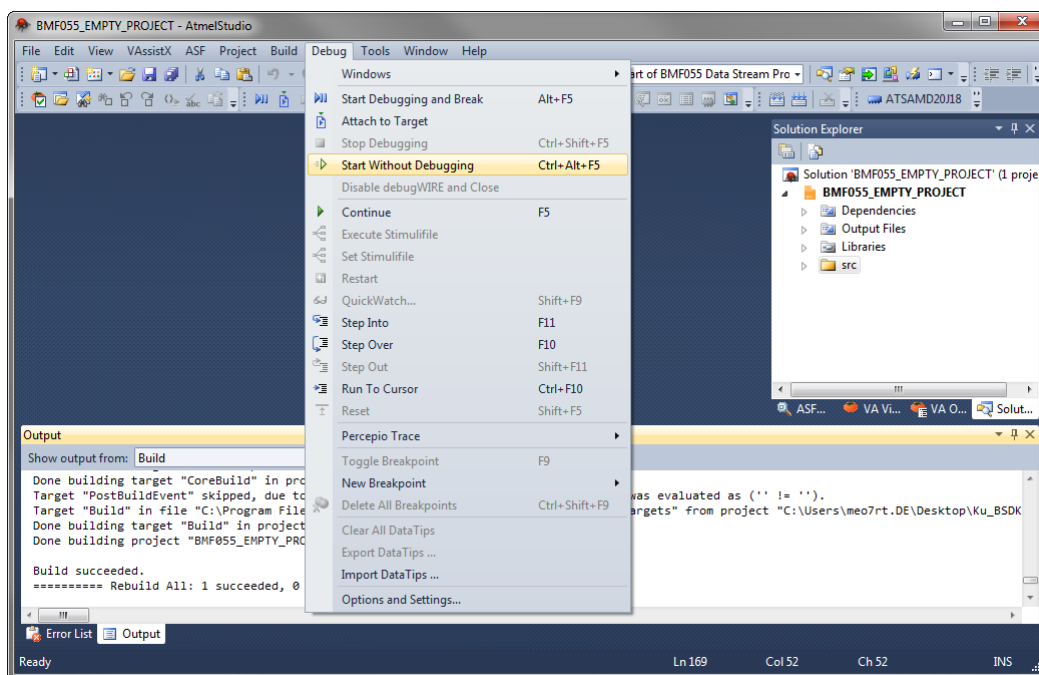

Figure 6 - Start without Debugging
18. Go to “Debug -> Start Without Debugging” (Figure 6)